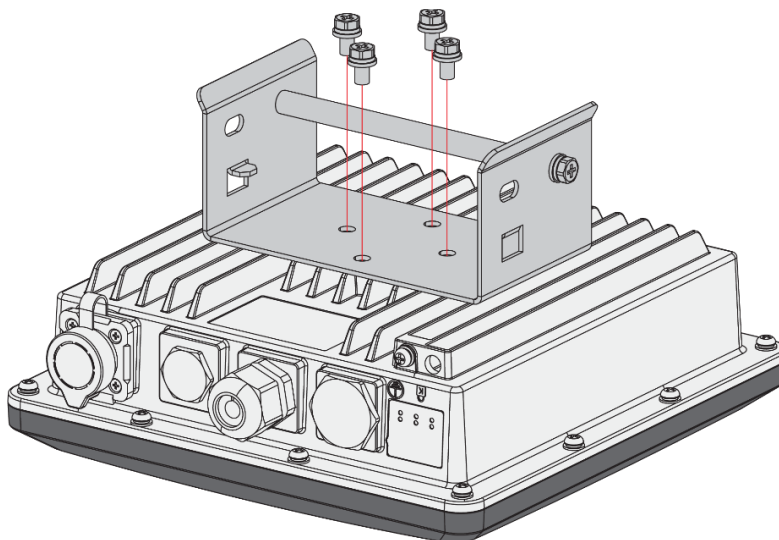

Figure 10: Fixing the bracket to the enclosure
1. Fix the device bracket on the bottom of the enclosure with four M6*12 screws, as shown in Figure 10.